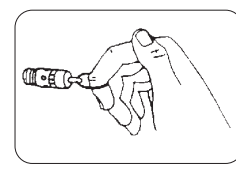

FIGURE 13
7. Verify if safety valve 6 (Figure 13) is working.
- B. Verify the operation of the safety valve 6 (Figure 13).